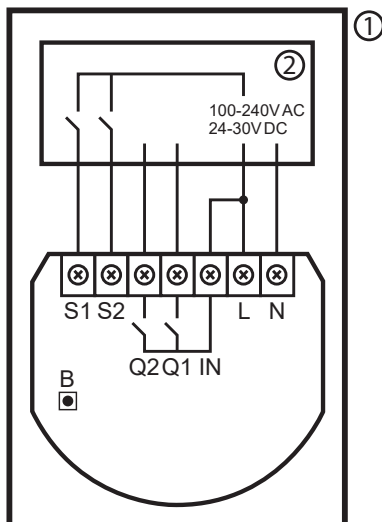

Figure 1: Example connection of DoubleSmart-Control
2. Connect as shown in Figure 1 below.